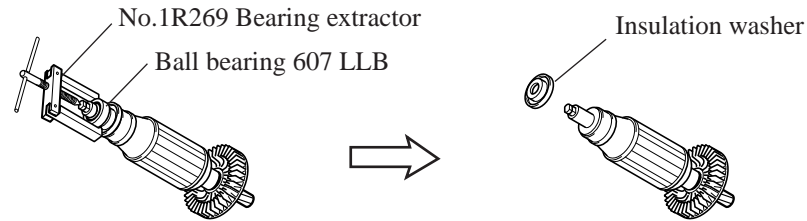

Fig. 35
6. Disassemble ball bearing 607 LLB from armature shaft as illustrated in Fig. 35.